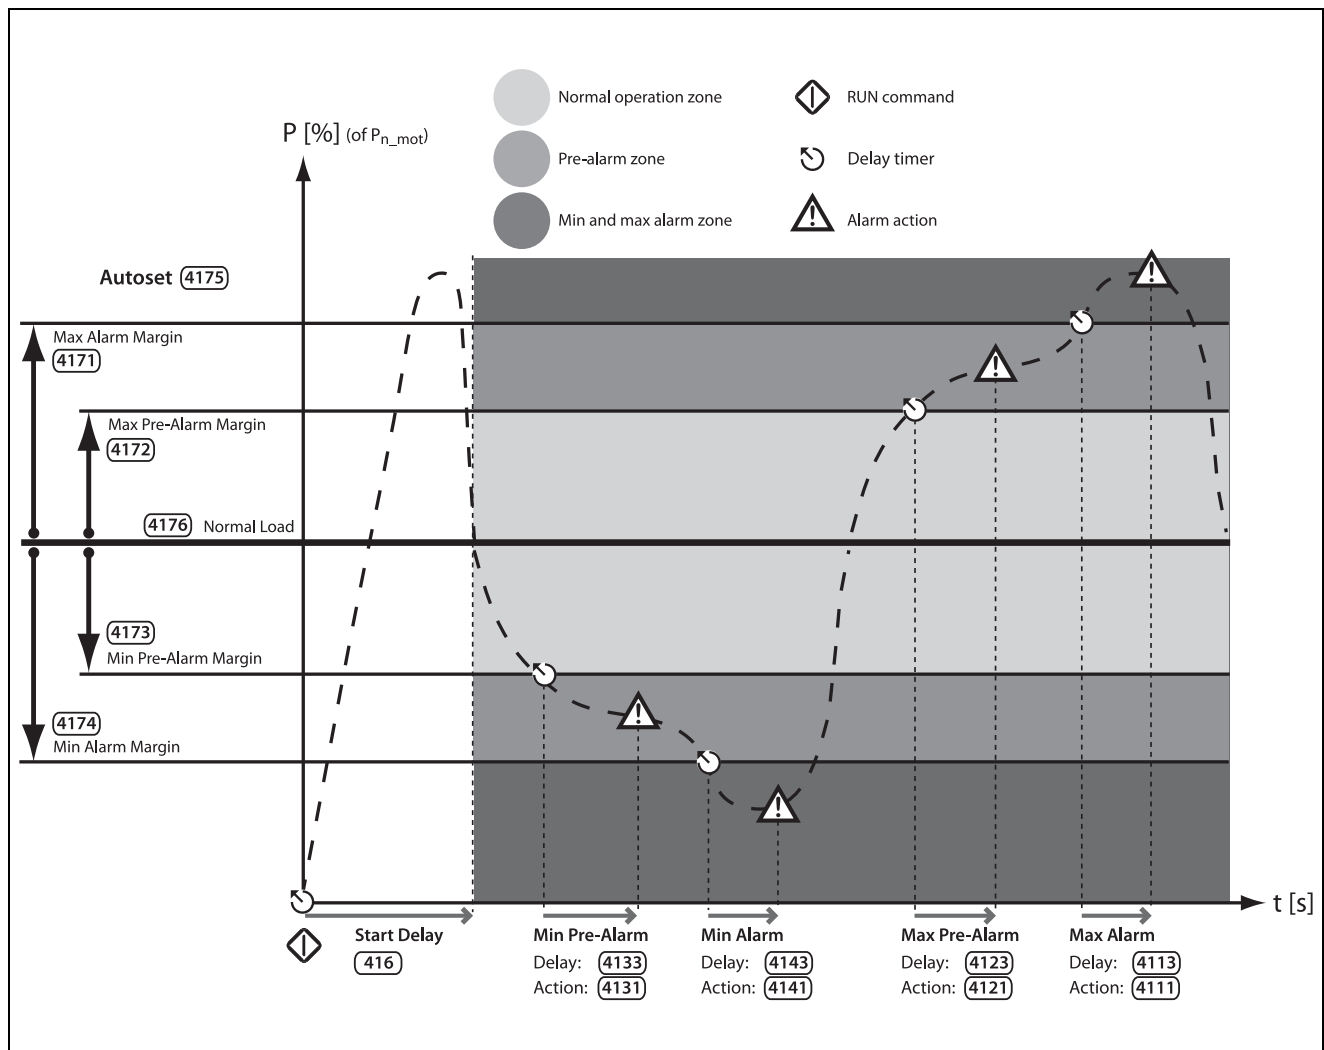

Fig. 41 Autoset load monitor alarm margins.
2. “Autoset” configuration, for which the alarm levels are automatically set, based on “Normal Load”  $\pm$  four “Alarm Margins” (Fig. 41).
See Fig. 41. The quickest way to adapt the monitor to different load situations is to use the “Autoset” function, which automatically applies four “Alarm Margins” to a registered “Normal Load” level whilst the motor is running. The “Alarm Margins” are set as a percentage added to or subtracted from the “Normal Load”, which is the shaft power during normal operation conditions. See calculations in Table 28, page 98. The “Normal Load” is expressed as a percentage of the nominal motor power (i.e. 100% normal load equals the motor power set in menu [223]).